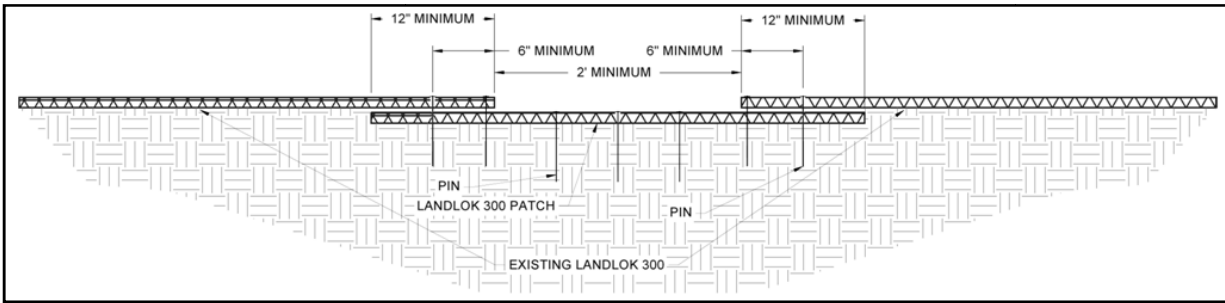
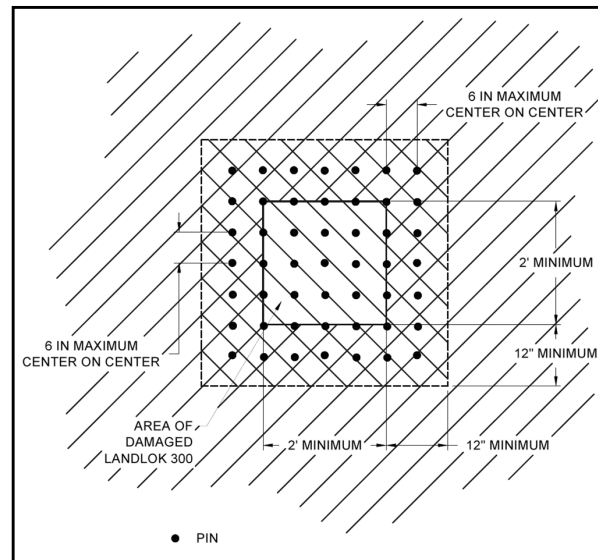

Figure 19: Landlok 300 Patch Cross Section
Figure 20: Landlok 300 Patch Plan View
- A. *Acceptable (A)* - The rated area is in satisfactory, acceptable condition, and will function as designed and intended during the rain event. Landlok 300 has no exposed edges, is installed tightly by maintaining direct contact to the channel surface with no rilling beneath, and has over 90% vegetation cover. There is no noticeable damage present.
- B. *Minimally Acceptable (M)* - The rated area has a minor deficiency that needs to be corrected. The minor deficiency will not seriously impair the functioning of the area during the next rain event; however, the overall reliability of the project will be lowered because of the minor deficiency. Landlok 300 has 75% vegetation cover with un-vegetated patches as large as one square yard. Edges of Landlok 300 are exposed with noticeable damage. Minimal erosion has occurred underneath Landlok 300.
- C. *Unacceptable (U)* - The rated area is unsatisfactory. The deficiency is so serious that the area will not adequately function in the next rain event. Landlok 300 has been physically torn, ripped, or lifted from the channel surface. Less than 75% vegetation cover is present with un-vegetated patches being greater than 1 square yard, and there is evidence that erosion is occurring beneath Landlok 300.
3. To repair Landlok 300, cut out and remove damaged areas in a square configuration a minimum size of 2 ft by 2 ft. Remove all vegetation and debris atop of Landlok 300. Loosen the top 1 to 2 in of soil in the patch area then seed. The subgrade of area to be patched shall be prepared to be smooth and uniform and transition smoothly into the in-situ area. Cut a square Landlok 300 patch a minimum of 12 in greater than the damaged area for all four sides of the patch. Overlap the patch area in all directions a minimum of 12 in. The patch overlaps shall be tucked under the existing damaged Landlok 300 material (Figure 19 and Figure 20).